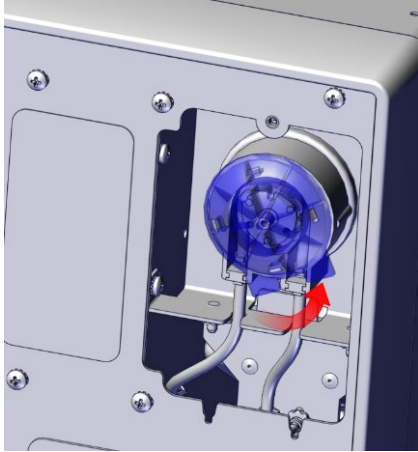
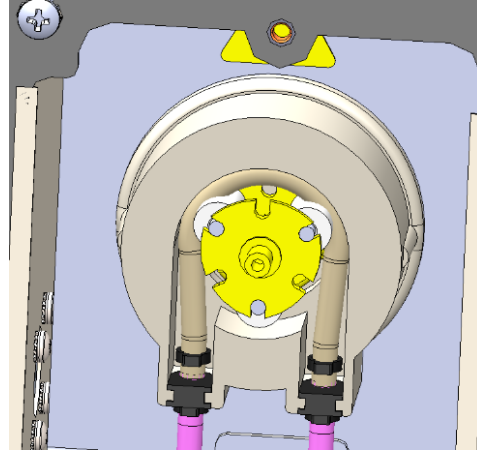

Figure 19A
Figure 19B
16. Remove the wash pump cap as shown. See Figure 19A and Figure 19B.